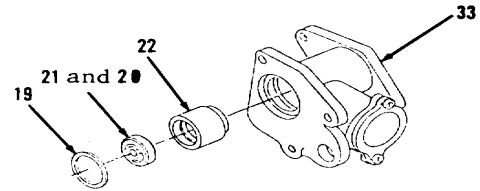

Figure 3-149.
10. Install new preformed packing (21) on pyramid side of valve (20). Lubricate outer diameter of valve (20) with clean diesel fuel.
11. Install items 21 and 20 as an assembly and washer (19) in piston (22, Figure 3-149).